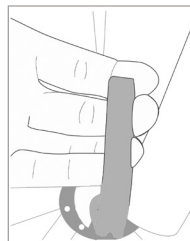

FIGURE 3.30
- Make sure a locked quick-release lever can not be turned (Figure 3.30).
5. Align the levers so they do not touch a part of the bicycle or an accessory part (such as rack or fenders), and so obstacles in the path of the bicycle can not catch the levers (Figure 3.30).